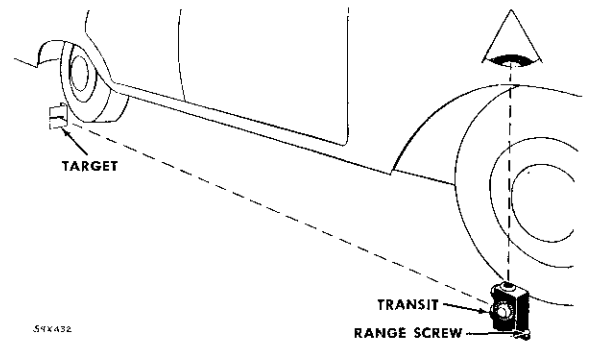
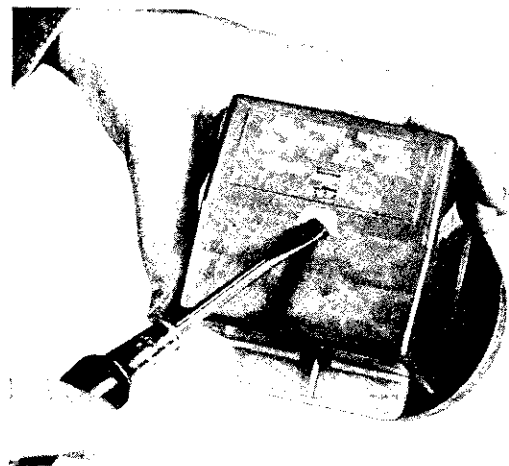

Fig. 39—Determining Slope of Floor (Typical)
Fig. 40—Adjusting Floor Level Compensators
(1) For mechanical aim the slope of the floor should be known.
(2) Place transit on floor in line with vertical center line of the right front wheel (Fig. 39). Place split image target in like position at right rear wheel.
(3) Adjust range screw on transit until target split image coincides or merges into one unbroken line.
(4) Turn dial on side of transit until bubble in spirit level is centered.
(5) When bubble is centered, note "plus" or "minus" reading on compensator scale. This figure indicates the degree of slope of the floor and must be transferred to each aimer as follows:
(6) With a screwdriver, turn adjusting slot of floor lever compensator in each aimer, until the correct plus or minus figure (or fractional part) appears in the proper window (Fig. 40).